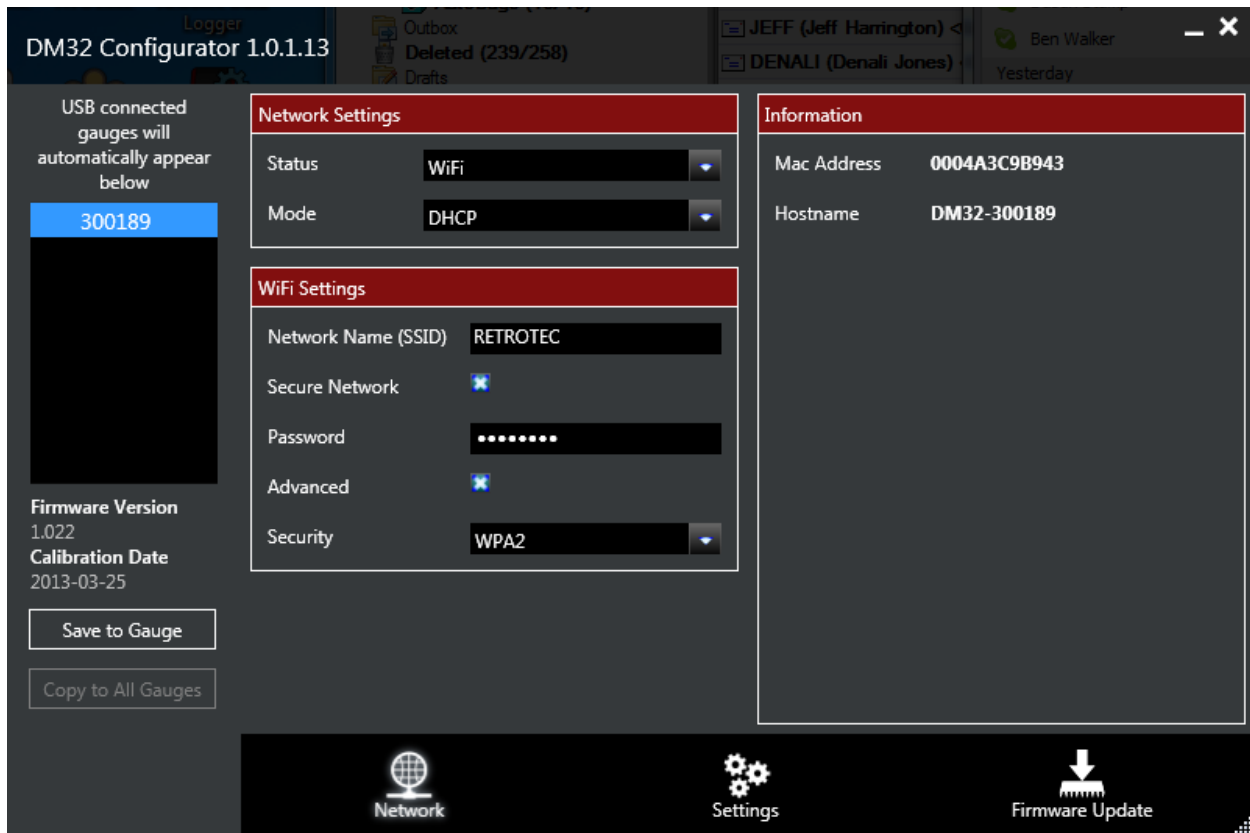

Figure 20: Some Secure WiFi networks need you to change the defaults in Advanced security settings
11. If you have a non-standard network, click on "Advanced" and select your WiFi router's security type from the drop down choices as shown in Figure 20.